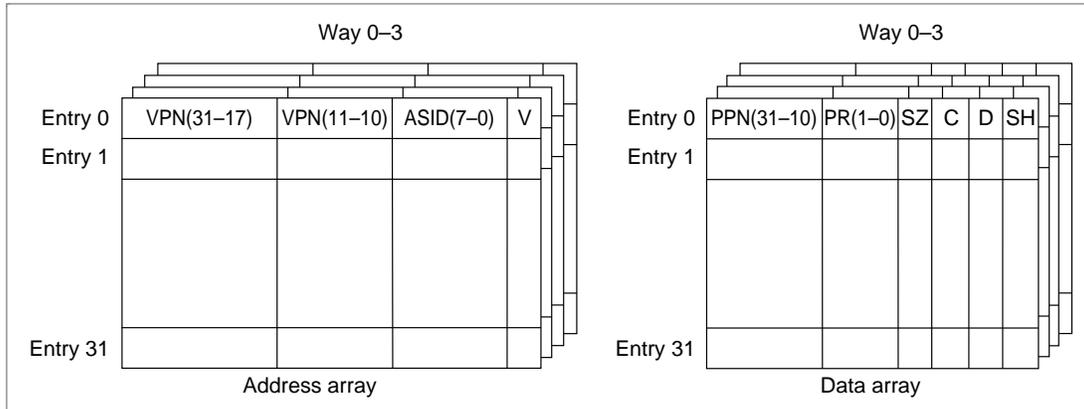

**Figure 3.3 MMU Register Contents**
5. The MMU control register (MMUCR) residing at address H'FFFFFFF0, which makes the MMU settings described in figure 3.3. Any program that modifies MMUCR should reside in the P1 or P2 area.
The MMU registers are shown in figure 3.3.